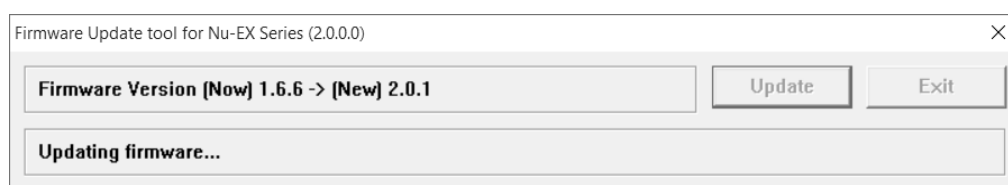

Figure 1.5.5 Firmware Update Tool Updating Screen
4. When <Update> is clicked, the display changes as shown in Figure 1.5.5. Wait until the firmware update has been completed. BUSY LED (Orange light) lights up during updating the firmware.